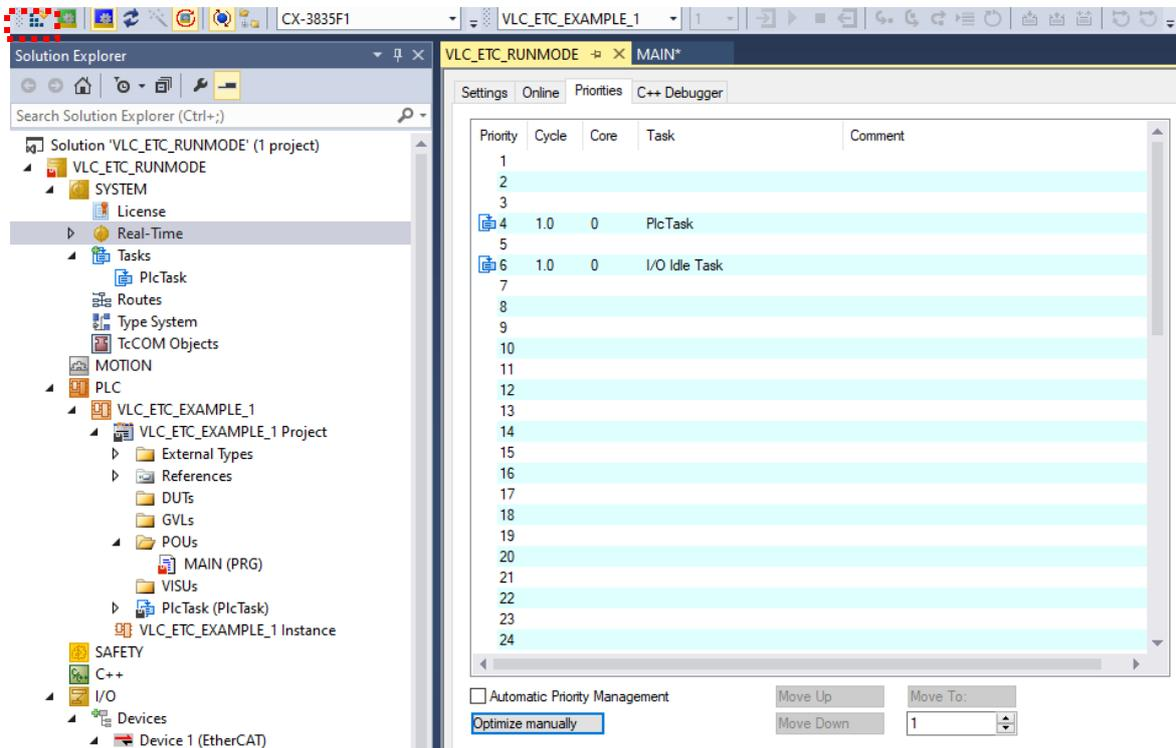

Figure 3.11. Changing task priorities.
- Double-click on 'Real-Time' in the left pane of Fig. 3.11, then select the tab 'Priorities'. One can change the priority of the tasks in TwinCAT, or to optimize it by clicking on the button that's shown on the bottom of Figure 3.11.